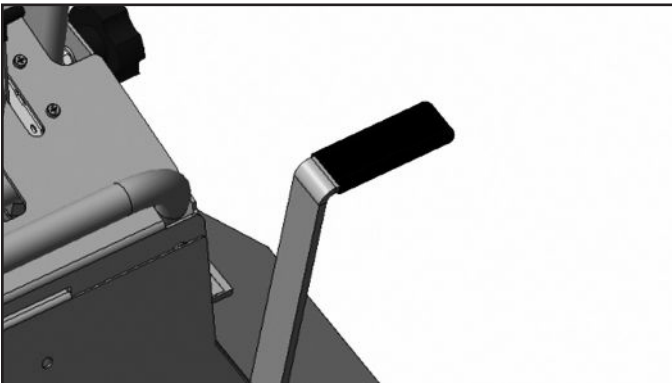

Figure 4: Park brake location
8. The parking brake lever can be located on the right side of the ABI Force connected to the dash. Push the lever forward and down to disengage the parking brake. Refer to **Figure 4** for reference.